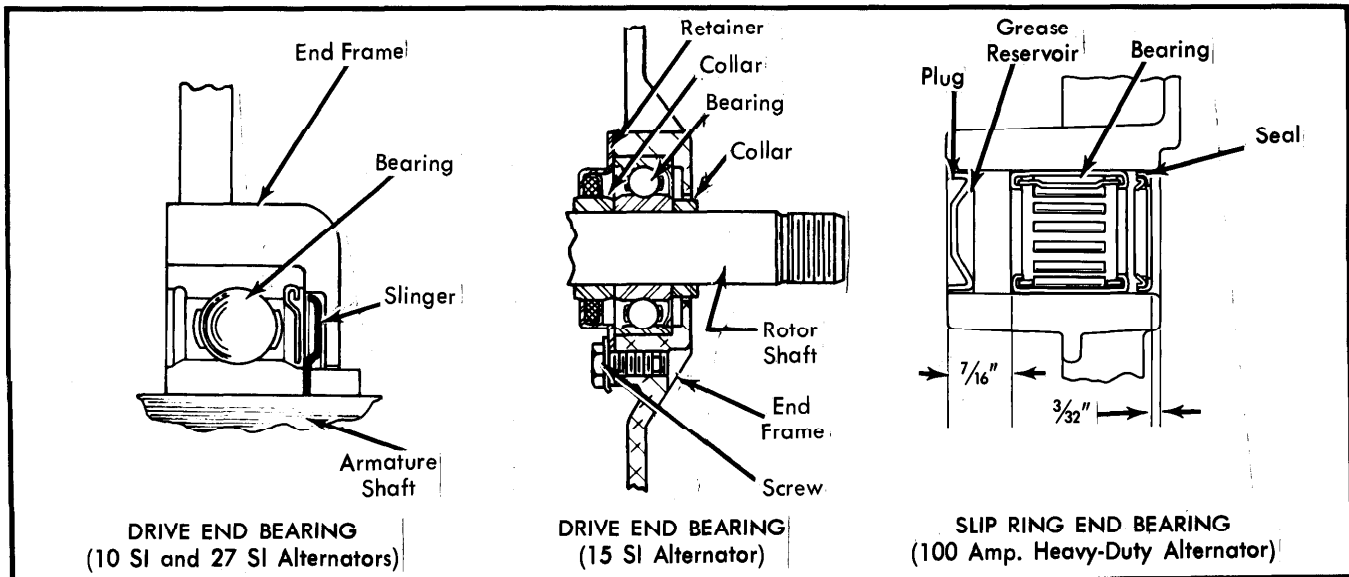

Fig. 9 Bearing Assemblies for Delcotron Alternators
2) Remove brush springs and place pressure sensitive tape (not friction tape) over slip ring end bearing and bearing shaft on rotor. See Fig. 9. Remove 3 nuts holding stator leads to rectifier bridge and remove stator.
2) Separate stator from slip ring end frame, removing 3 stator leads from studs. Remove and clean brushes in acetone if necessary. Place tape over bearing and shaft to protect from dirt. See Fig. 9. Do not use friction tape.